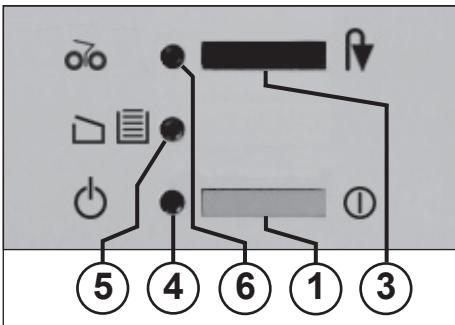

Fig. 1
1 = Pushbutton switch (fig. 1)
3 = Pushbutton switch (fig. 1)
4 = Pilot lamp (fig. 1)
5 = Pilot lamp (fig. 1)
6 = Pilot lamp (fig. 1)
- Turn machine on with pushbutton switch (1) (fig. 1). Pilot lamp lights up (4) (fig. 1).
Once the collecting bag is full, the machine switches off. The pilot lamp „Container full“ / „Door open“ (5) (fig. 1) **flashes**. To show that the cutting mechanism has stopped, the pilot lamp „Paper jam“ / „Stop“ (6) lights up.
- Move back the sliding frame with the collecting bag and close door. The pilot lamp (5) (fig. 1) goes off.
- Briefly press the pushbutton switch „Backward operation“ / „Stop“ (3). The cutting mechanism shreds what remains in the feed shaft and then switches off. The pilot lamp (6) goes out. You can now continue shredding.
- The pilot lamp (6) (fig. 1) lights up.
- **Continuously** press pushbutton switch „Backward operation“ / „Stop“ (3) while simultaneously removing from the machine any documents that were being fed in.
- After removal, the cutting mechanism automatically runs forwards, shreds any remnants remaining in the inlet slot and then switches off. The pilot lamp (6) (fig. 1) goes out.